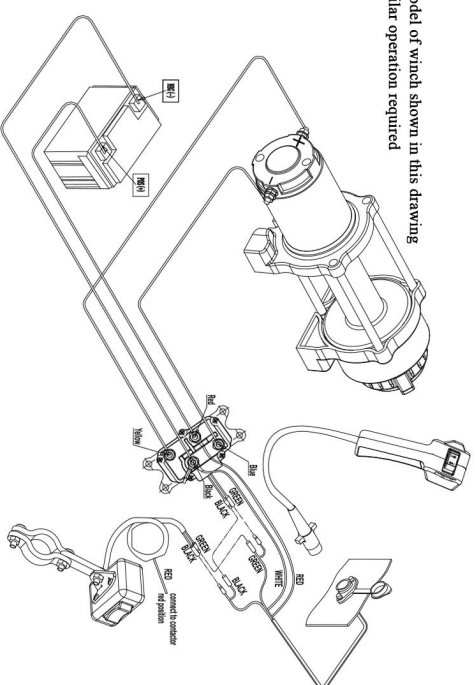

Fig. 6
Route the two lines from the switch to the motor and battery respectively. Connect the red cable to the positive (1) terminal of the battery and the black line to the negative (2) terminal of the battery. (See Fig. 6 below.)